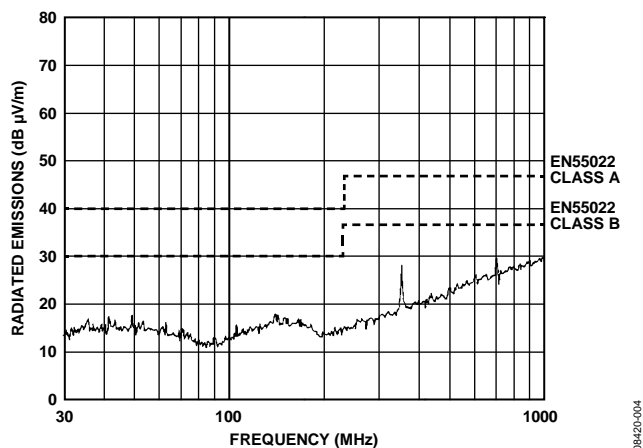

Figure 4. Horizontal Scan from 30 MHz to 1000 MHz (Corresponds to Worst Case for Table 4)
The EVAL-ADM2582EEBZ and EVAL-ADM2587EEBZ evaluation boards are configured and tested with 3.3 V V_{CC} or 5.0 V V_{CC} power supplied to the ADM2582E and ADM2587E devices, with the power supplied from the ADP667ARZ regulator output to V_{CC} (Pin 8). The ADP667ARZ regulator input is supplied from a standard 9 V battery. All EN55022 radiated emissions testing is performed with 9 V batteries. Testing is performed at a 500 kbps clock (ADM2587E) or 16 Mbps clock (ADM2582E), with the clock supplied by the on-board oscillator. The ADM2582E/ADM2587E transceiver is connected in full-duplex mode and the bus pins are loaded with a 60 Ω termination resistor. Measurements are carried out in a semi anechoic chamber at 10 m from 30 MHz to 2 GHz. Figure 4 to Figure 7 show the results of the worst case horizontal scans, and Table 4 to Table 7 show the tabulated quasi-peak (QP) results.